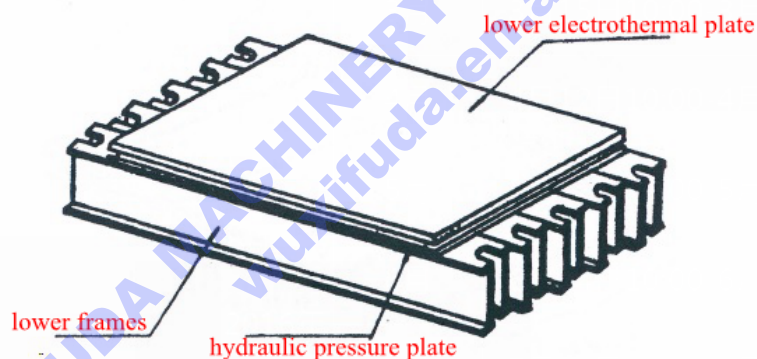

Fig. 6
(2) As shown in figure 6, the hydraulic pressure plate is placed on the laid-out lower frames firstly, and then the lower electrothermal plate is placed on the hydraulic pressure plate. After aligning of the three parts, cover the lower electrothermal plate with heat resistant plastic film or talcum powder.